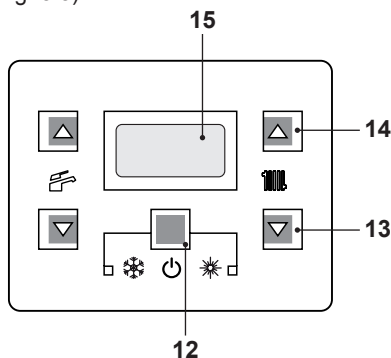
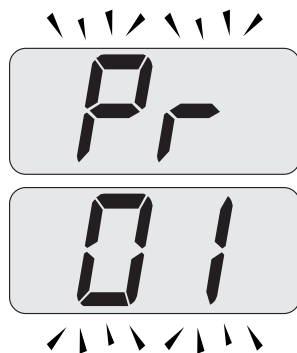
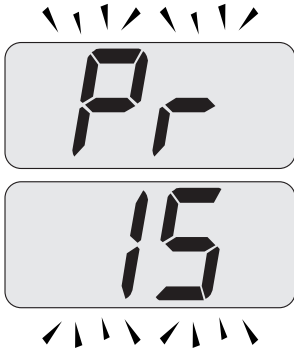

Fig. 8.7
Fig. 8.8
Fig. 8.9
- Enter in "programming mode" by sequentially pressing and holding keys 12 - 13 - 14 (Fig. 8.7) for 10 seconds at the same time until the letters **Pr** that alternate with code 01 are displayed on the LCD display, indicating that "parameter 01", has been activated (Fig. 8.8).
- Scroll the various parameters using keys 13 or 14 until the letters **Pr** that alternate with code 15 are displayed on the LCD display, indicating that "parameter 15" (Fig. 8.9) has been activated.
- Press keys 12 and 14 (Fig. 8.7) at the same time until the value of parameter 15 (Fig. 8.10) is displayed on the LCD display.
- By pressing key 12 (Fig. 8.7) confirmation of the inserted value is obtained.
- Press keys 12 and 13 (Fig. 8.7) at the same time to exit without changing the value (return to the parameters list Fig. 8.9).
- Press sequentially keys, 12 - 13 and then 14 (Fig. 8.7) and hold in for 10 seconds to exit the "programming mode".
ing system can be increased or reduced by $\pm 15^\circ\text{C}$ by pressing keys 13 (reduce) and 14 (increase) (Fig. 8.7).